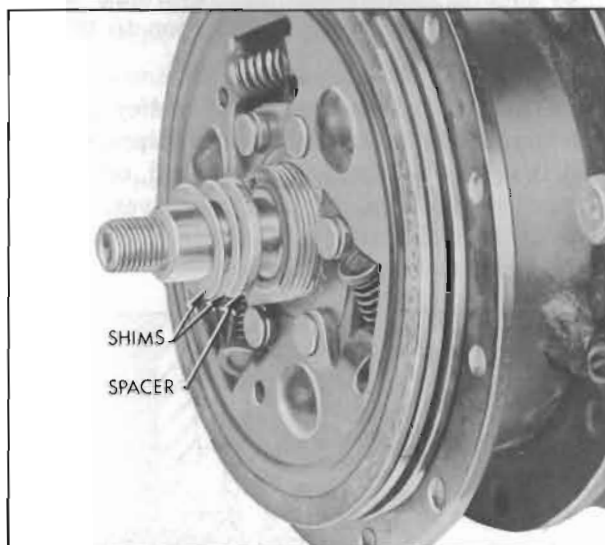

Figure 11-60—Compressor Clutch to Pulley Bearing Spacer and Shims
18. Replace the clutch hub and pulley bearing spacer and shims on the compressor shaft, observing instructions in step 4 to obtain proper clutch clearance. See Figure 11-60.